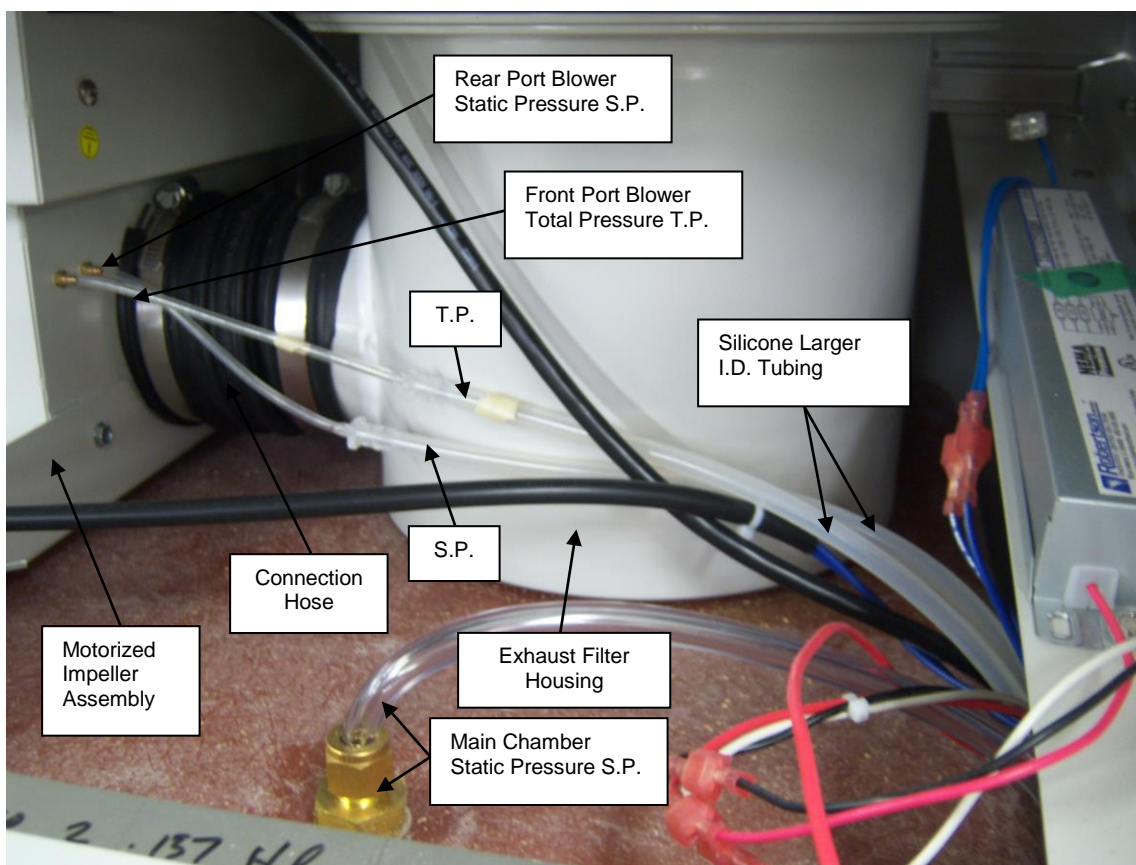

Figure 6-3
4. Label and remove the tubing as shown in Figure 6-3.